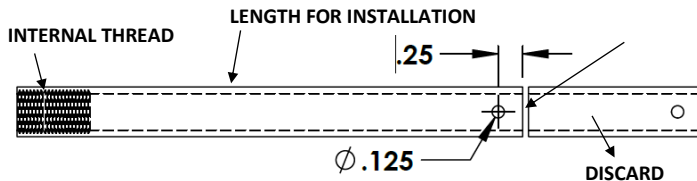

Fig. 1
1. CUT STEM TO LENGTH (OPTIONAL) Fig. 1